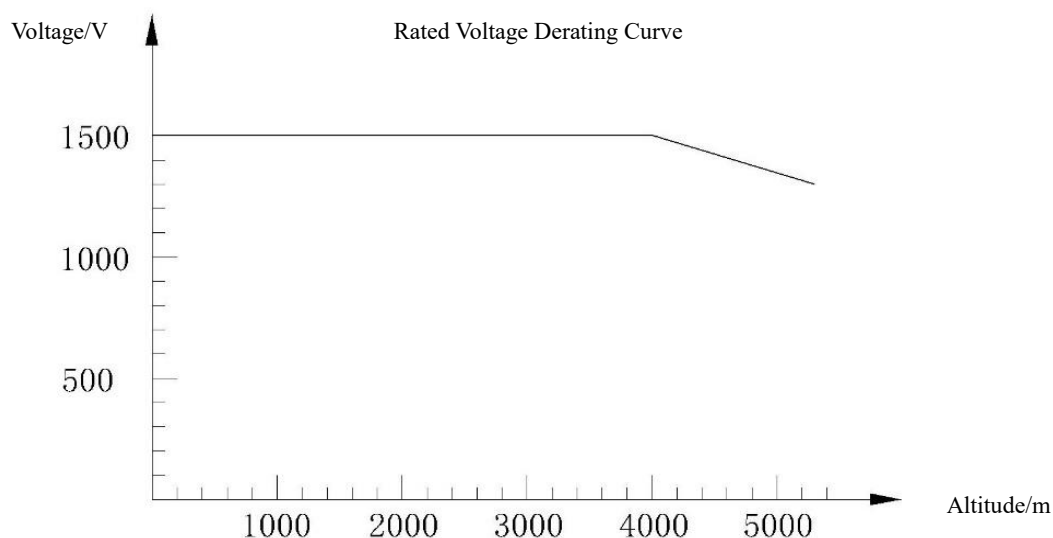

Figure 2 Altitude derating curve
- a) The ambient air temperature for normal operation ranges in -40°C~+85°C; when the ambient air temperature is above +85°C, or below -40°C, the user should negotiate with the manufacturer; the altitude of the normal installation site does not exceed 4000m, and the derating curve when it exceeds 4000m is shown in Figure 2. The current should be negotiated with the manufacturer.